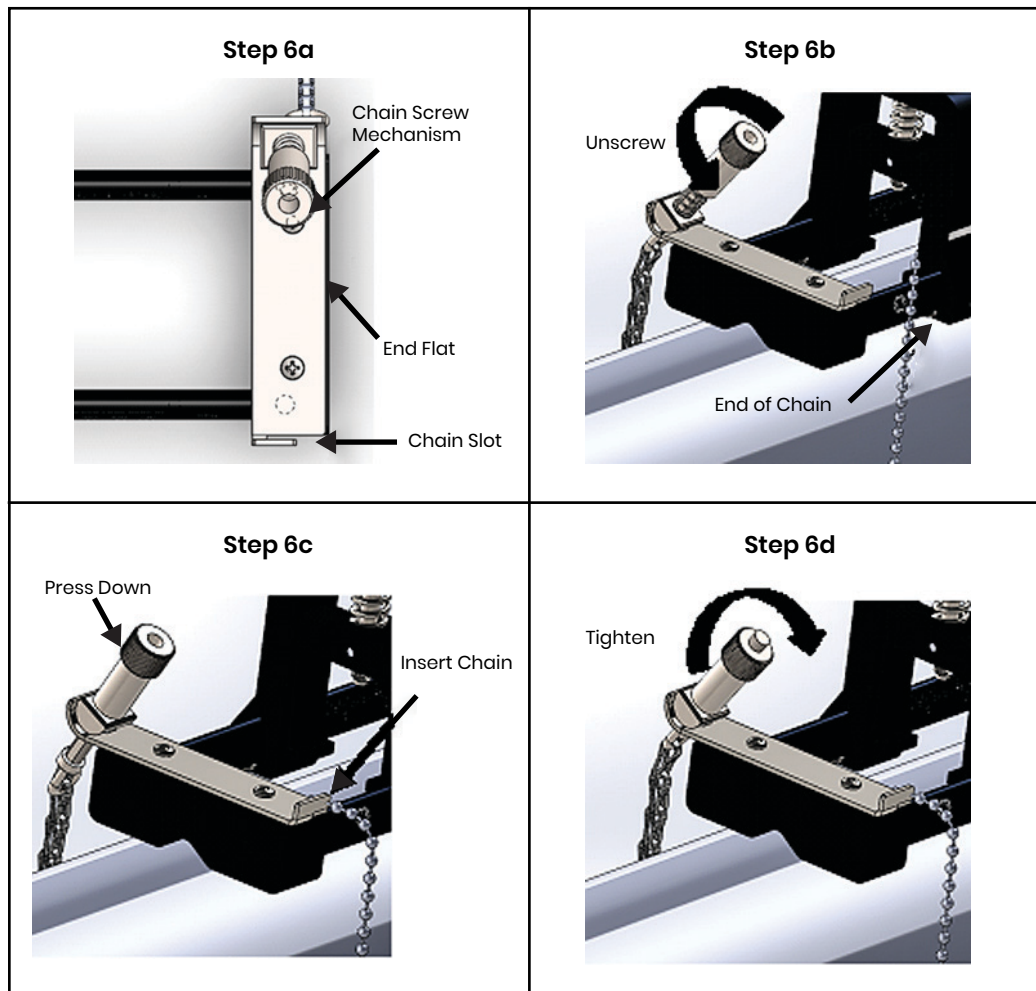

Figure 13: Installing a Chain
6. To install a chain around the pipe, refer to *Figure 13* on page 10 and complete the following steps: